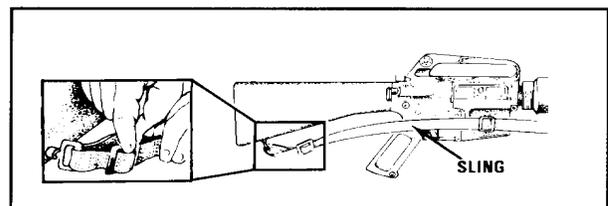

Figure 10-39. Placing the Sling
- p. Replace the sling (figure 10-39).